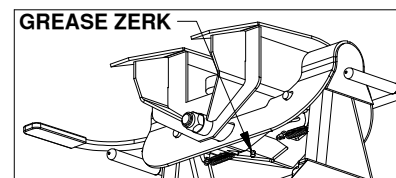

FIGURE J1: View under saddle.
- Grease the saddle through the grease zerk approximately every six months with multi-purpose grease. this allows the coupler to pivot freely, see figure J1